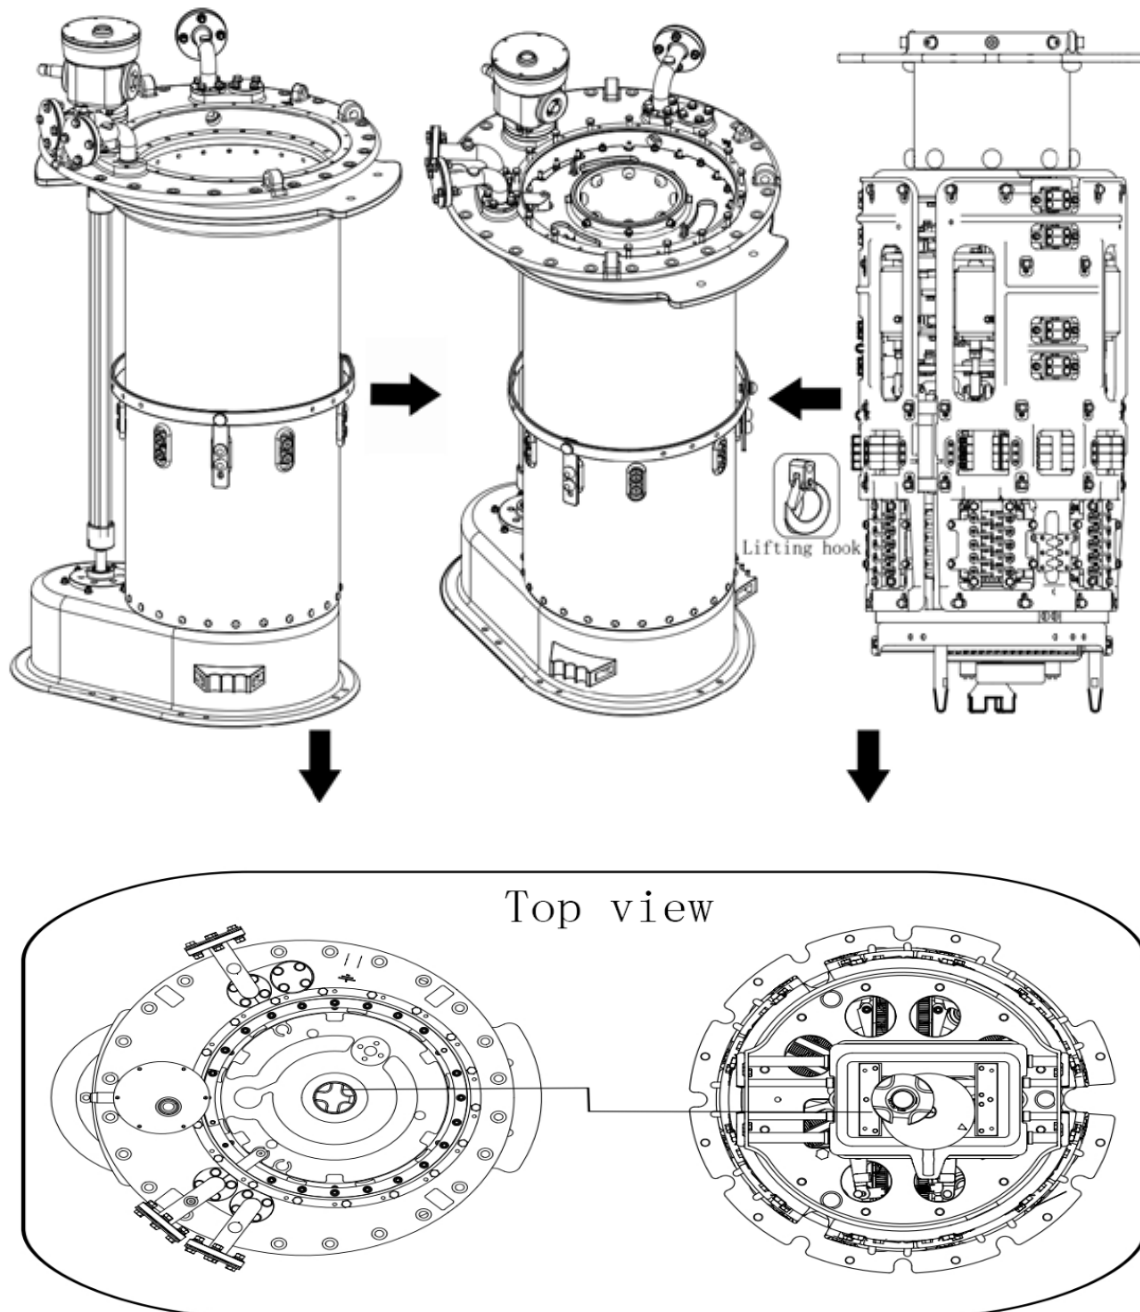

Figure 4.2.13
4.2.6.1 Make sure that the tap selector and the connecting part at the bottom of the oil compartment must be in the setting position when the diverter switch insert is installed, roughly align with the position of the small end of the connecting part. (see Figure 4.2.13)